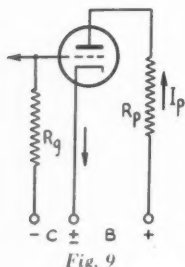

Fig. 9
**Example:** In the case of Fig. 9, it is assumed that the grid is to be fed a square-wave pulse. Compare the plate voltage when the tube is conducting a current of 15 ma. with the effective plate voltage when the tube is idle and not drawing plate current. The plate resistance is 10,000 ohms.